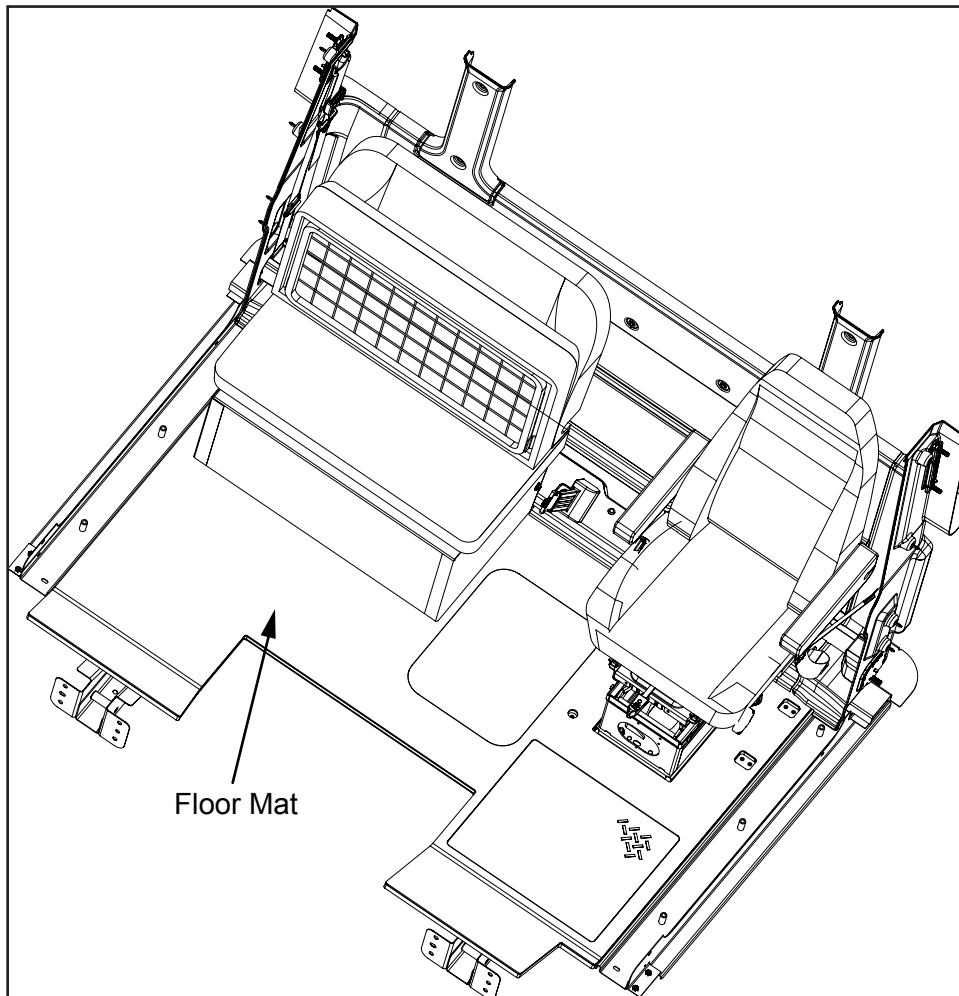

Figure 20
21. Reinstall the floor mat (see *Figure 20*).